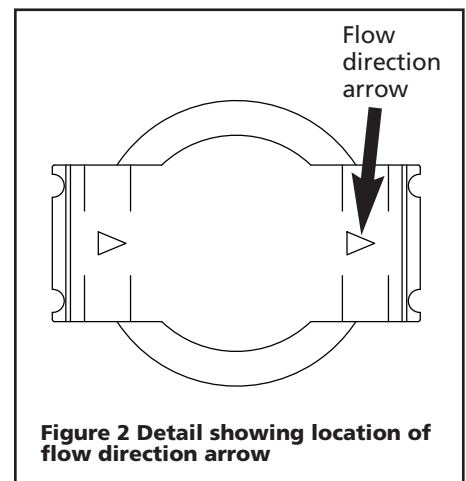

Figure 2 Detail showing location of flow direction arrow
1. Locate the air flow direction arrow (See Figure 2, detail). This arrow shows the direction of the air flow, i.e., it points to the outlet.
3. Verify the arrow points to the outlet. (See Figure 2.)